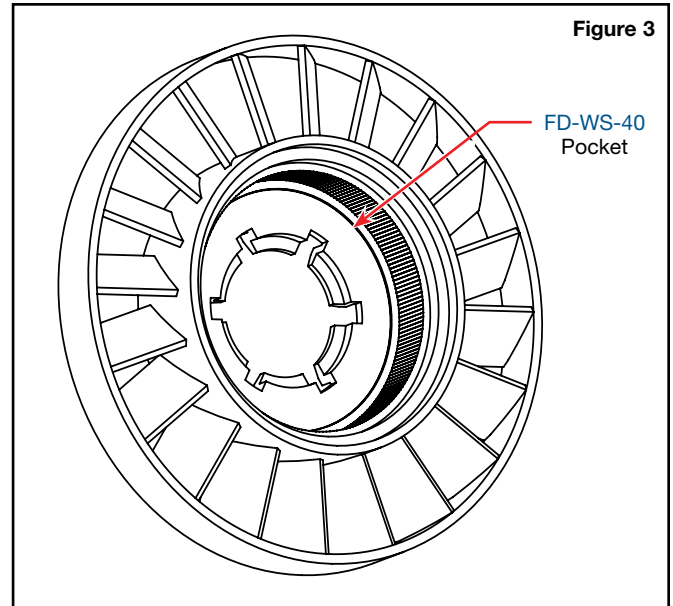

Figure 3
- Machine a pocket on the worn stator surface to the thickness of **FD-WS-40** (.0275–.0325") to ensure **FD-WS-40** sits at or below the original stator surface (**Figure 3**).